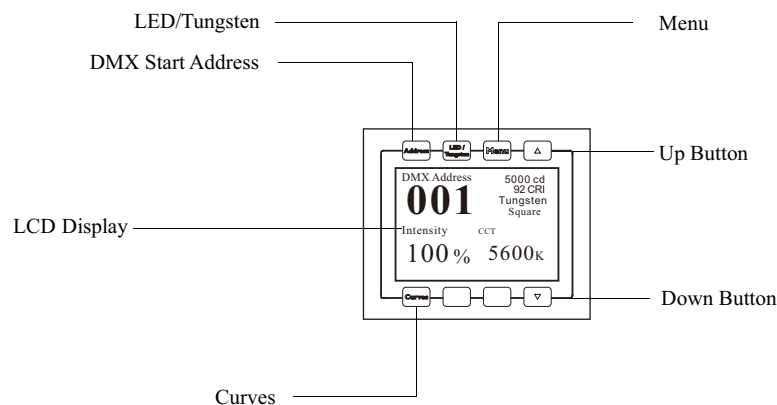

Figure 8: LCD Display and Menu System
- Step 2. Press the desired button (as shown in **Figure 8**) to access menu categories.